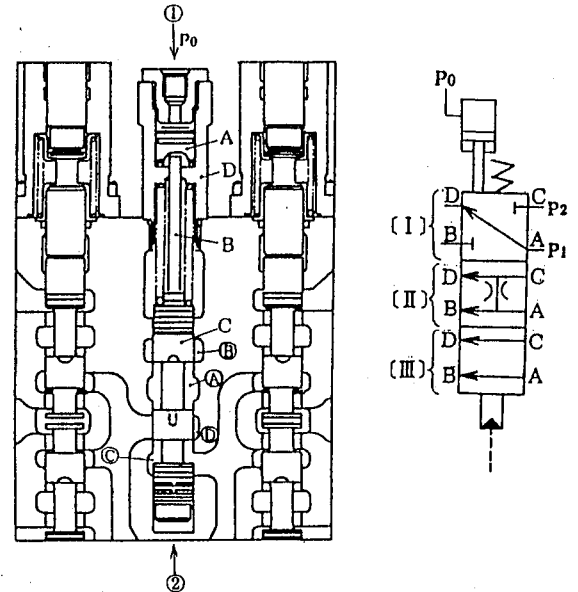

Fig. 15 Travel priority limiter
See Fig.15. Because pilot pressure of 50 kgf/cm² (711psi) is introduced at P₀ (chamber (1)), piston A is pushed against the lower end, and restricts the stroke of spool C.